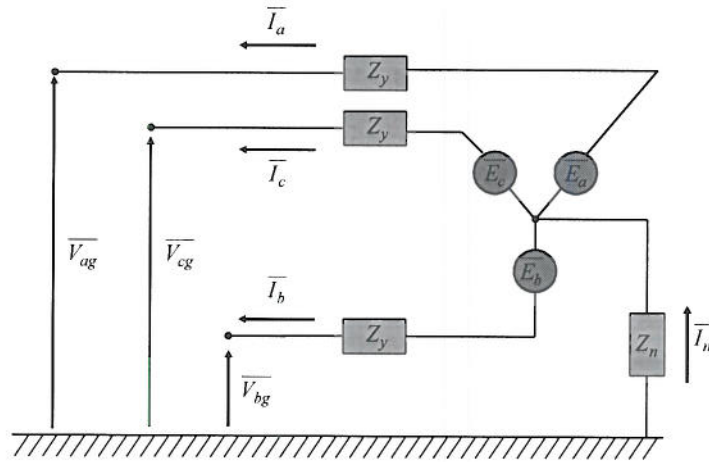

Figure 1.2. Generic unbalanced circuit
- (ii) for the unbalanced circuit shown in Figure 1.2, show that positive and negative sequence currents do not flow in the neutral circuit and if there is no neutral connection, there will be no zero sequence current. [2]